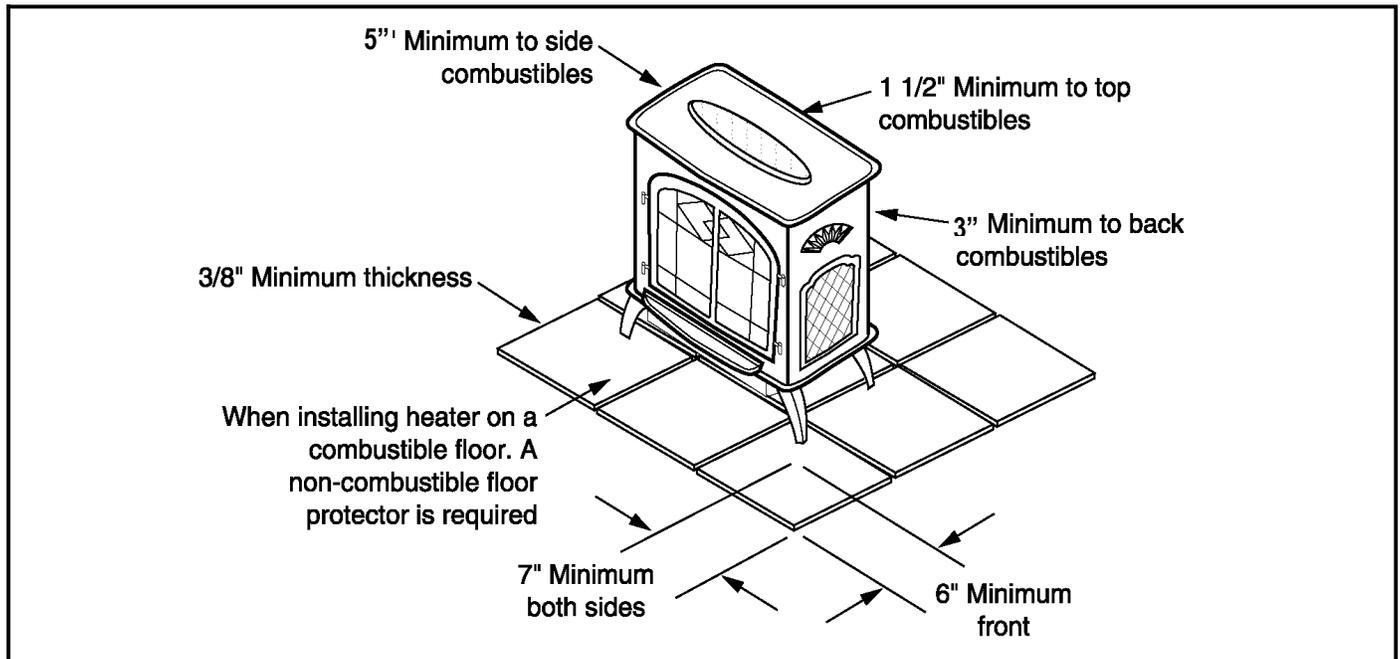

FIGURE 3
- A non-combustible hearth pad must be used if installed on a carpet, wood floor, or other combustible material (see Figure 3). Maintain 6" (152mm) beyond the front and beyond each side of the fuel loading and ash removal opening.
- Keep front door of appliance thirty-six (36) inches from combustibles (drapery, furniture).